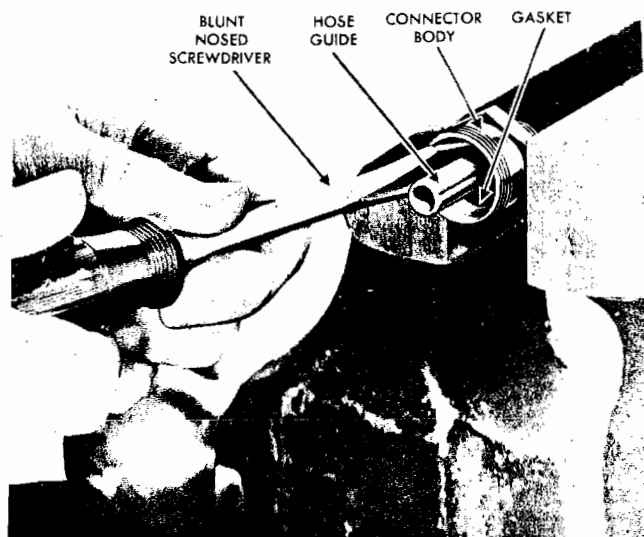

Fig. 21
7. Push gasket into bottom of recess in connector body (Fig. 21).